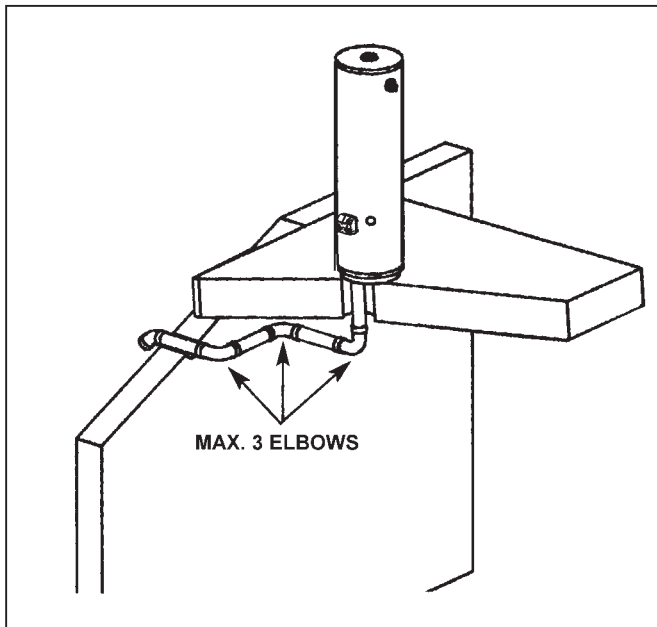

FIGURE 21.
6. The intake air vent piping can be installed with no more than 3 elbows. See Figure 21.